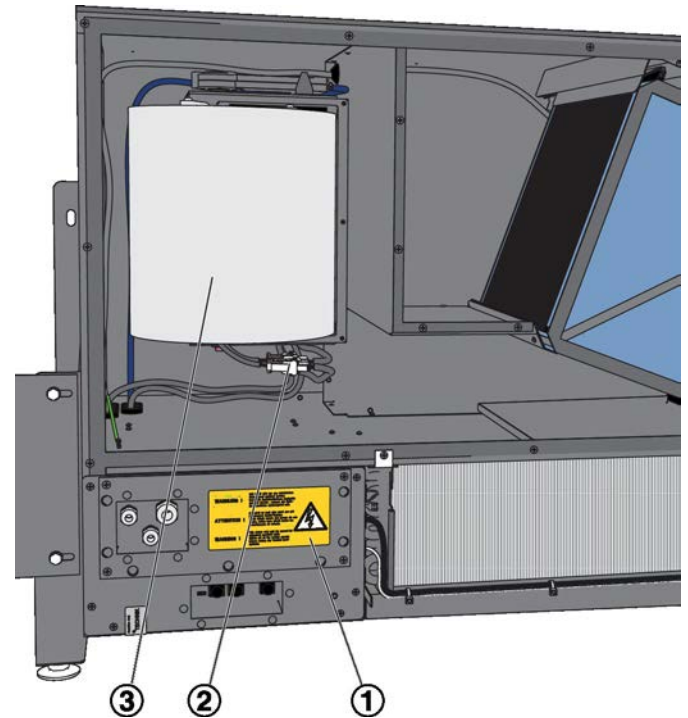

Fig. 28: Replacing the extract air fan
The extract air fan is installed above the electrical connections (Fig. 28/1).
3. ▶ Pull out the two plugs of the fan connecting cable (Fig. 28/2).
4. ▶ Carefully pull out the fan (Fig. 28/).